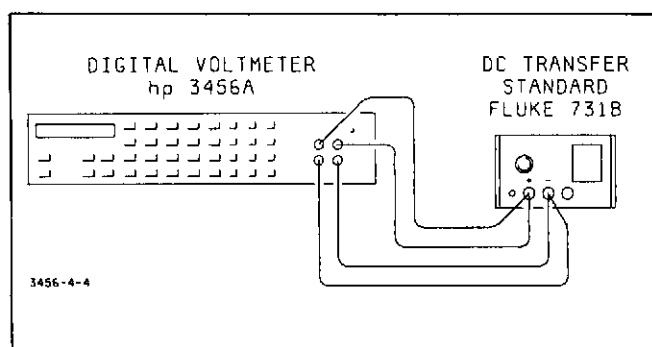

Figure 4-4. Ratio Test Connection.
- jj. Press the 3456A's RESET button. Connect the Transfer Standard's High Output to the 3456A's RATIO REF HIGH and VOLTS HIGH terminals. Connect the Standard's Low Output to the 3456A's RATIO REF LOW and VOLTS LOW terminals. Refer to Figure 4-4 for the connection.